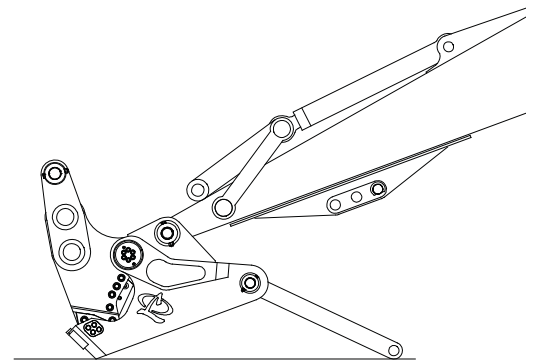

FIGURE 3-9
1. Support the position arm while removing the pin from the mounting pad. Leave the position arm attached to the shear and rotate it away from the mounting pad. Rest it on the ground as shown in figure 3-9.